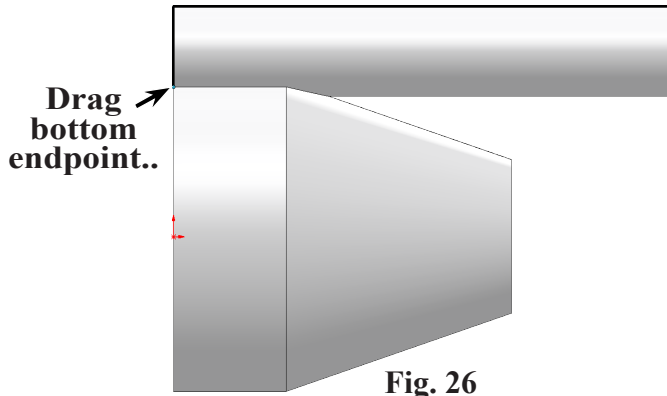
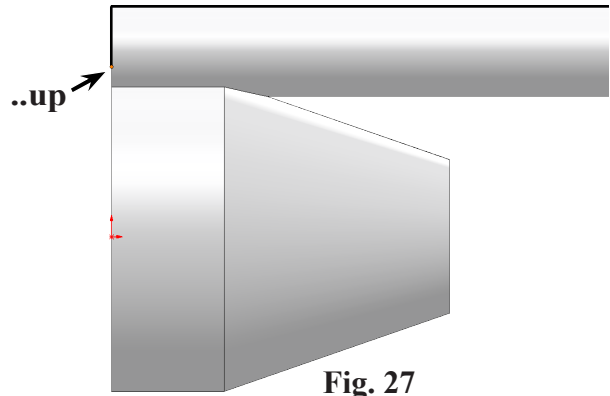

Fig. 26
Fig. 27
Step 5. Drag the **bottom endpoint of left converted edge up slightly**, Fig. 26 and Fig. 27.